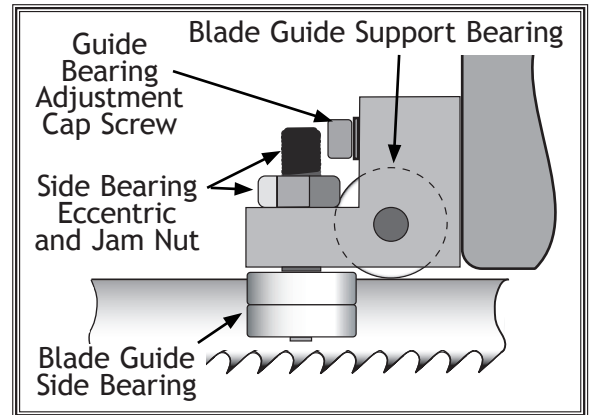

Figure 33. Blade guide adjustment locations.
The blade guide side bearings support the blade so the blade will enter the workpiece perpendicular to the table surface (see **Figure 33**).
3. Using a 6mm hex wrench, loosen the guide bearing adjustment cap screw (see **Figures 33 and 34**).
4. Adjust the blade guide housing so the support bearing rests against the rear of the blade (see **Figure 33**).